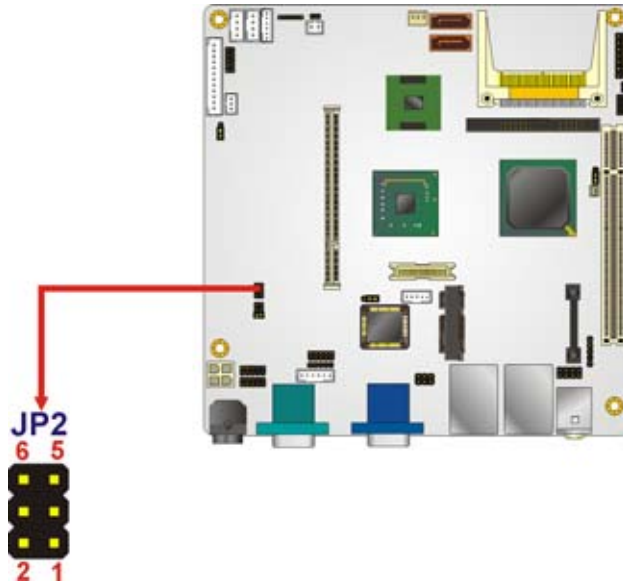

Figure 4-19: RS-422/485 Connector Pinout Locations
- CN Location:** See Figure 4-19